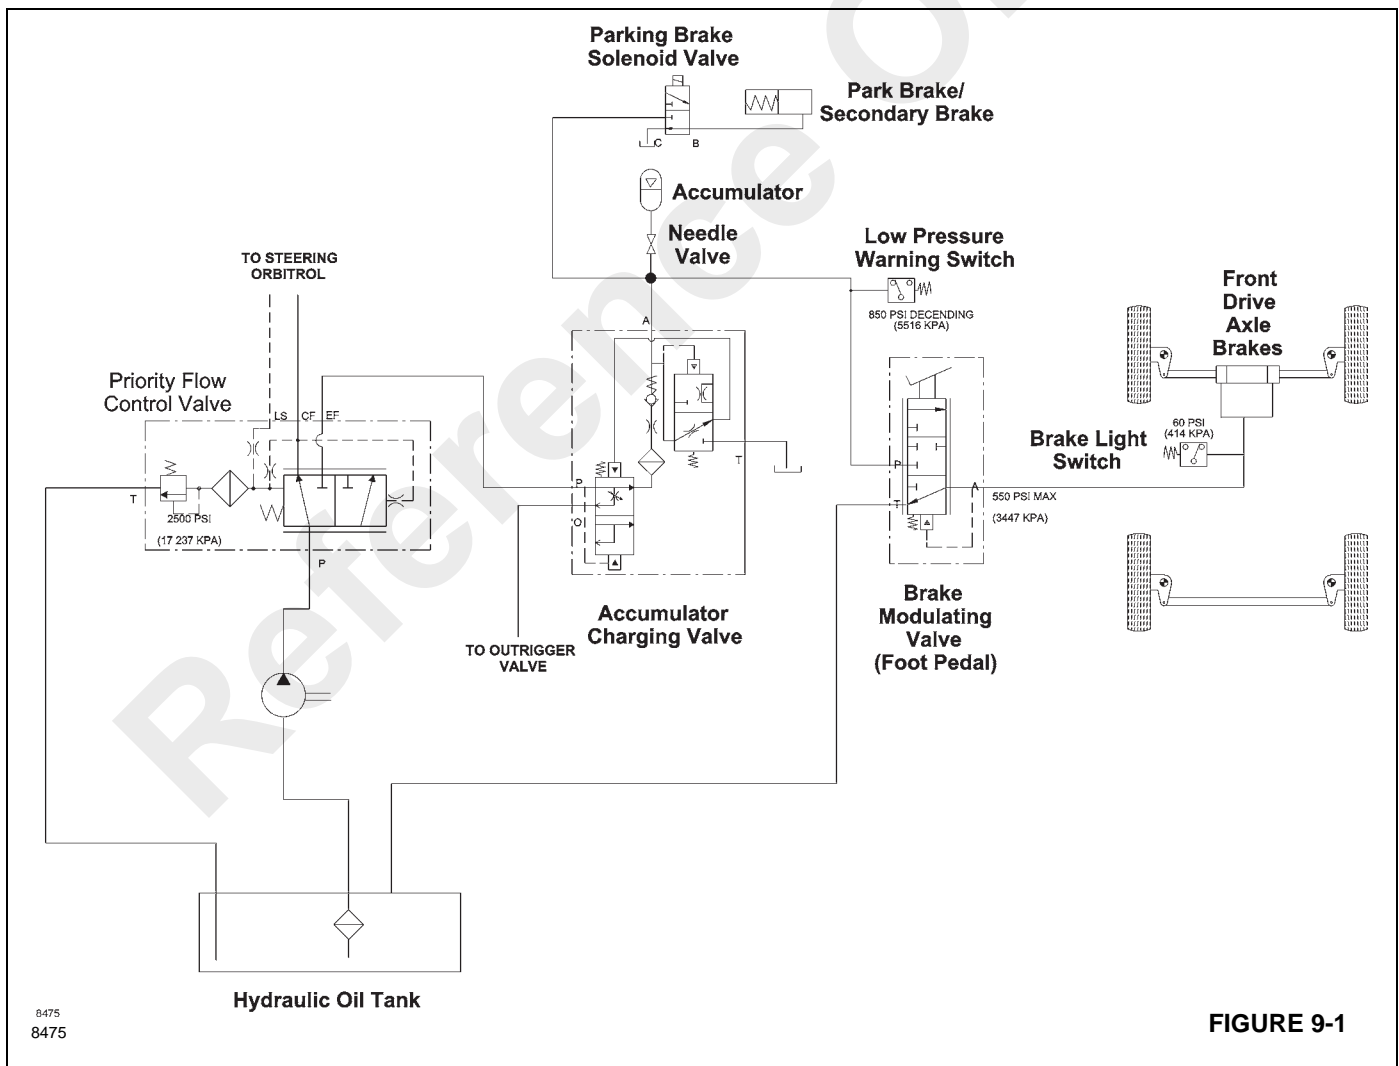

FIGURE 9-1
The service brake system (Figure 9-1) consists of the hydraulic pump, a relief valve included in the priority flow control valve, an accumulator charging valve, a low pressure
The hydraulic pump supplies hydraulic oil flow to the priority flow control valve (Figure 9-1).
The brake modulating valve is a closed-center spool design. When the valve is in no-applied position, brake port (A, Figure 9-1) is open to tank port (T). As the valve is initially actuated, tank port (T) is closed off from brake port (A). Additional actuation opens pressure port (P) to brake port (A). More input force will increase the pressure to brake port (A) until actuation effort and hydraulic reaction forces are balanced. When actuation is released, the valve returns to its non-applied position.
The parking brake system consists of two-way switch in the instrument panel, a solenoid valve and a parking brake. The system connects into the service brake system (Figure 9-1) and uses the accumulator for system pressure.